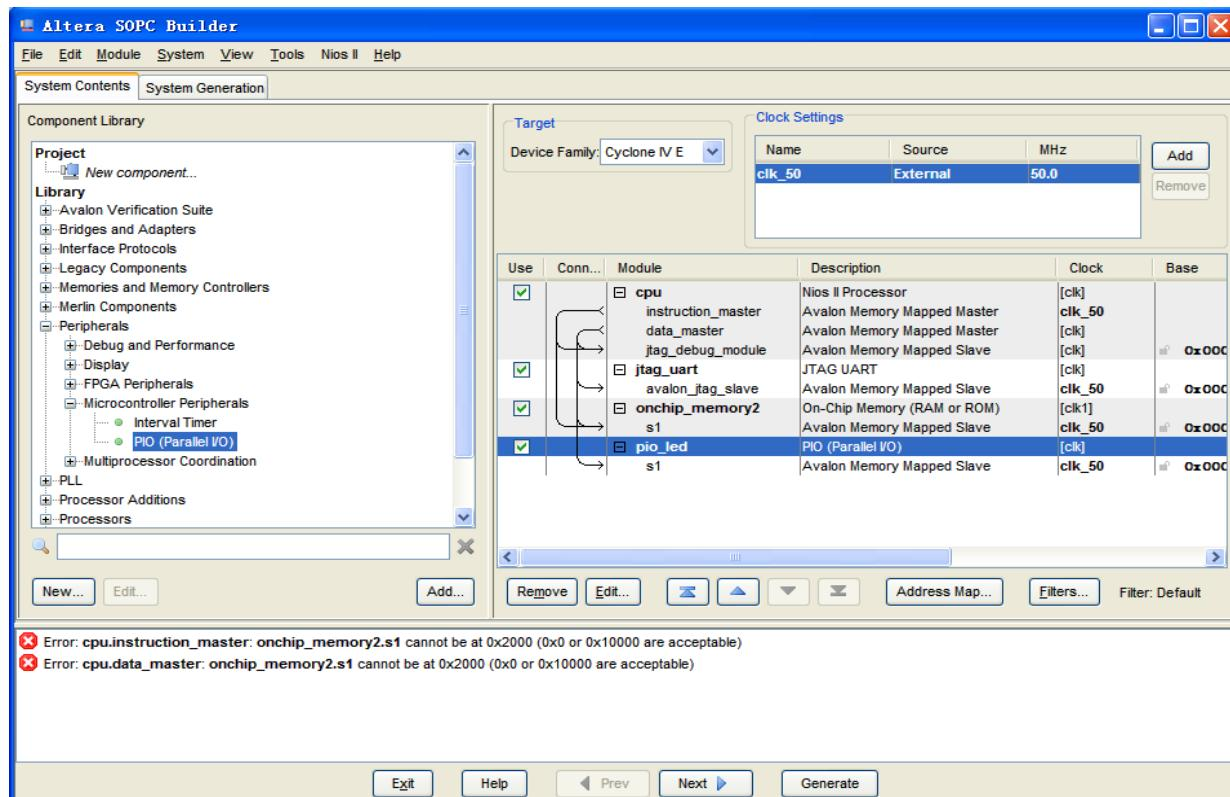

Figure 7-33 Rename PIO
21. Rename pio_0 to pio_led as shown in **Figure 7-33**.